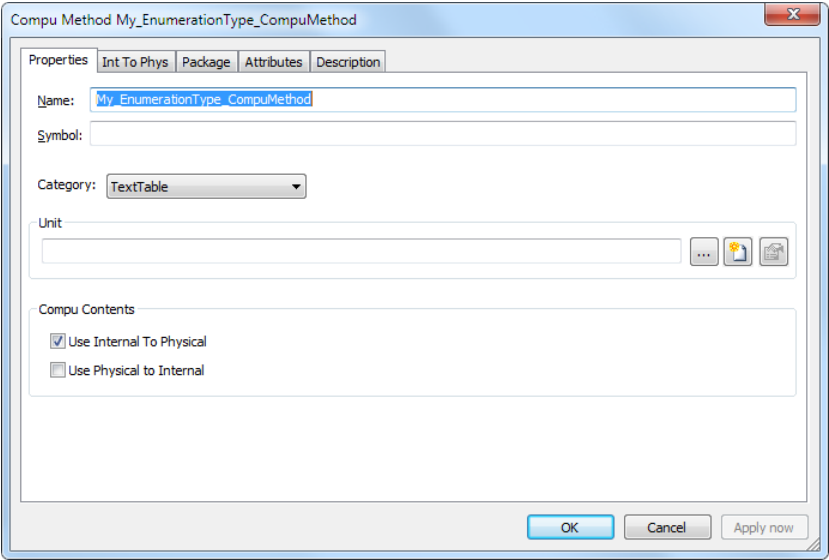

Figure 4-30 My_EnumerationType_CompuMethod
- ▶ It references “My_EnumerationType_CompuMethod” which defines a text table conversion (see Figure 4-30).